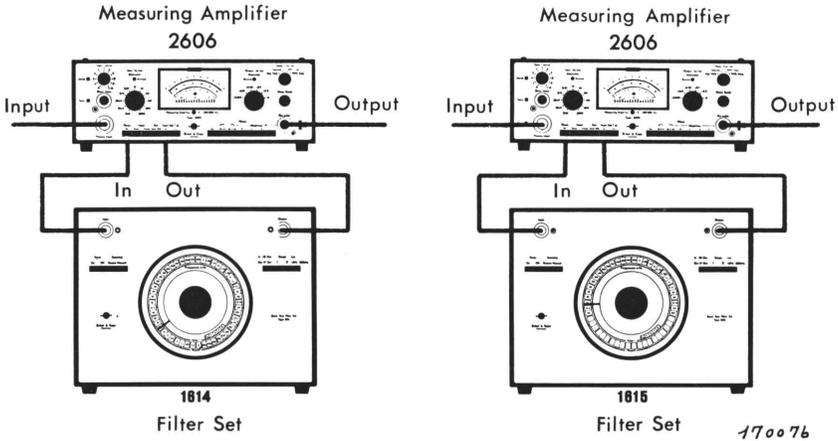

Fig.4.2 Filter Set Type 1614/15 combined with Amplifier Type 2606
The Type 2606 is a more advanced model of the 2603/04 with a wider overall frequency range (2 Hz–200 kHz) which covers both the 1614 and 1615. A typical set up for operation is shown in Fig.4.2. This system can be used to record sound or vibration or analyse other voltage waveforms if
1. Connect up instrumentation as in Fig.4.2.